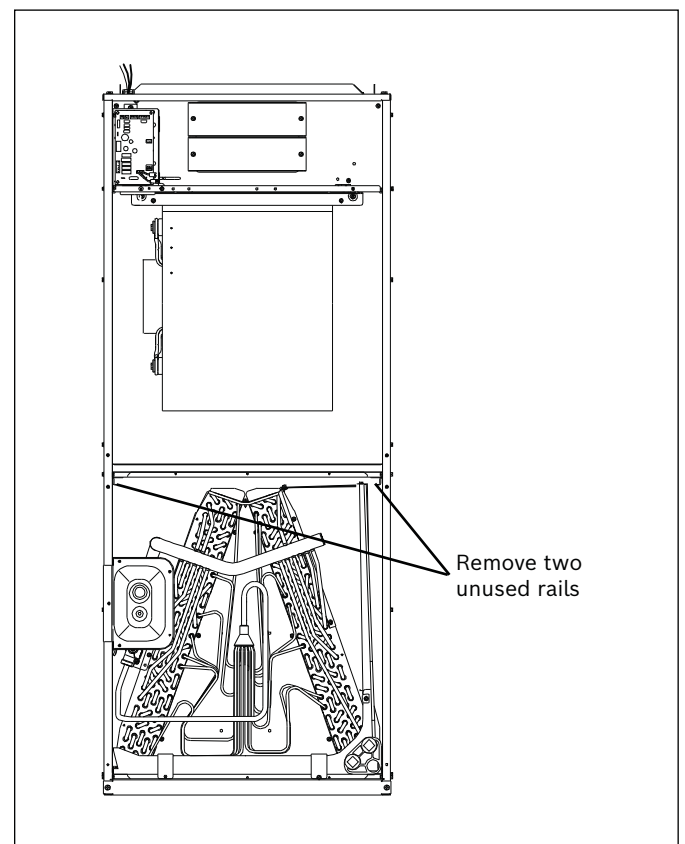

Figure 13
- There are two pairs of coil rails in the air handler for upflow and downflow application. If the air handler is installed in an unconditioned space, the two unused coil rails (Fig. 13) should be removed to minimize air handler surface sweating. The coil rails can be easily removed by unscrewing the 6 mounting screws from both sides of the cabinet.